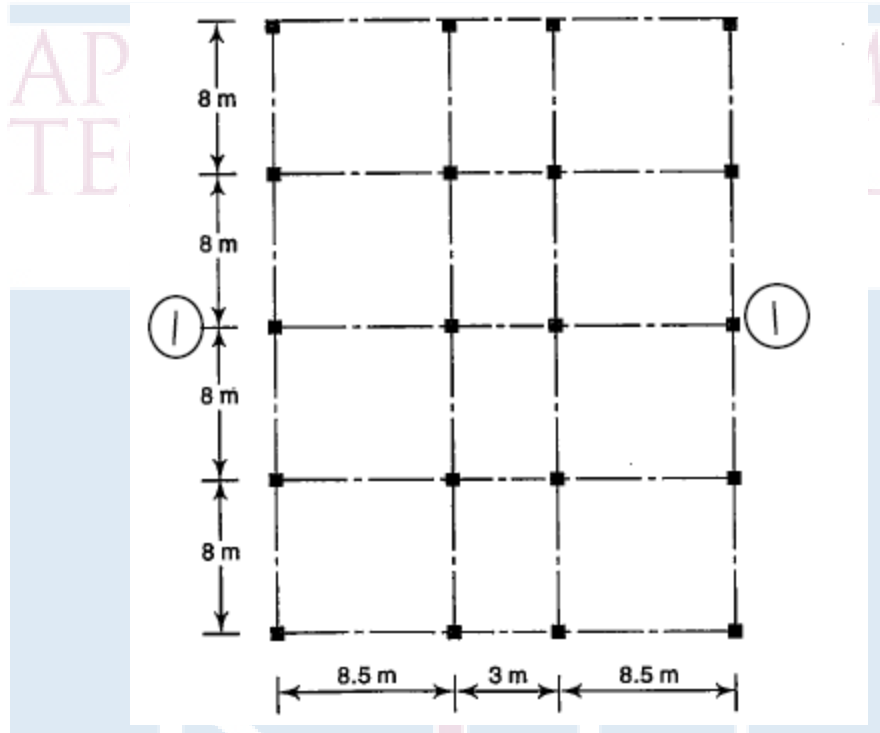

Fig.6.
19. a) Explain how the various building irregularities affect the behaviour of structures to earthquake excitation. (6)
b) The plan of a five storey building is shown in Fig 6. Dead load including self weight of slabs, finishes, partitions etc can be assumed as  $5 \text{ kN/m}^2$  and live load as  $4 \text{ kN/m}^2$  on each floor and as  $1.5 \text{ kN/m}^2$  on the roof. Determine the base shear and shears at different storey levels for the frame 1-1 marked in figure. (8)